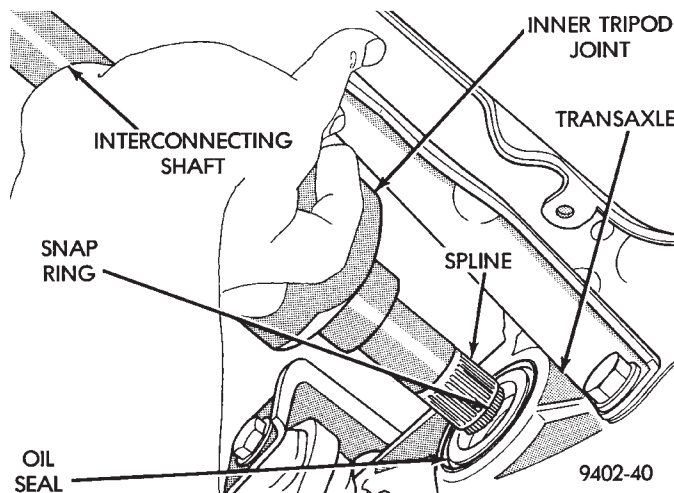

Fig. 14 Tripod Joint Removal from Transaxle
(16) Hold inner tripod joint and interconnecting shaft of driveshaft assembly. Remove inner tripod joint from transaxle, by pulling it straight out of transaxle side gear and transaxle oil seal (Fig. 14). **When removing tripod joint, do not let spline or snap ring drag across sealing lip of the transaxle to tripod joint oil seal.**
(1) Thoroughly clean spline and oil seal sealing surface, on tripod joint. Lightly lubricate oil seal sealing surface on tripod joint with fresh clean transmission lubricant.
(2) Holding driveshaft assembly by tripod joint and interconnecting shaft, install tripod joint into transaxle side gear as far as possible by hand (Fig. 14).
(3) Grasp inner tripod joint and interconnecting shaft. Forcefully push the tripod joint into side gear of transaxle, until snap ring is engaged with transaxle side gear. **Test that snap ring is fully engaged with side gear by attempting to remove tripod joint from transaxle by hand. If snap ring is fully engaged with side gear, tripod joint will not be removable by hand.**
(4) Clean all debris and moisture out of steering knuckle, in the area where outer C/V joint will be installed into steering knuckle.